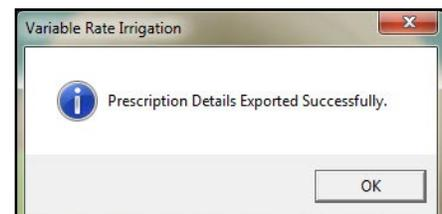

Figure 34-4 Successful Export
4. Click **OK**. See Figure 34-4.